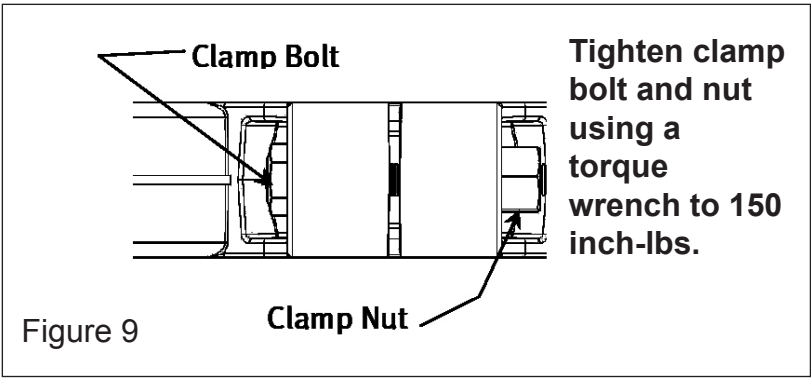

Figure 9
4. Never rely on hand tightening of clamp nut to clamp bolt. Using a 3/4" socket on a torque wrench, torque clamp nut to clamp bolt to 150 inch-lbs. (Fig 9)